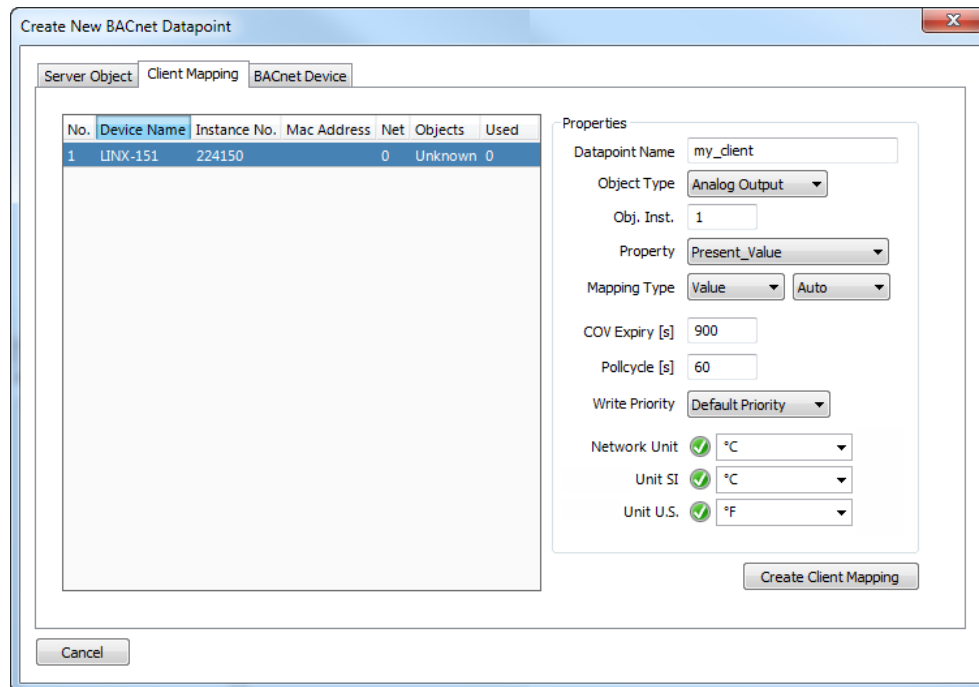

Figure 117: Create Client Mapping Dialog.
2. Right-click in the data point list and select **New Datapoint...** in the context menu. This opens the **Create New BACnet Point** dialog as shown in Figure 117.